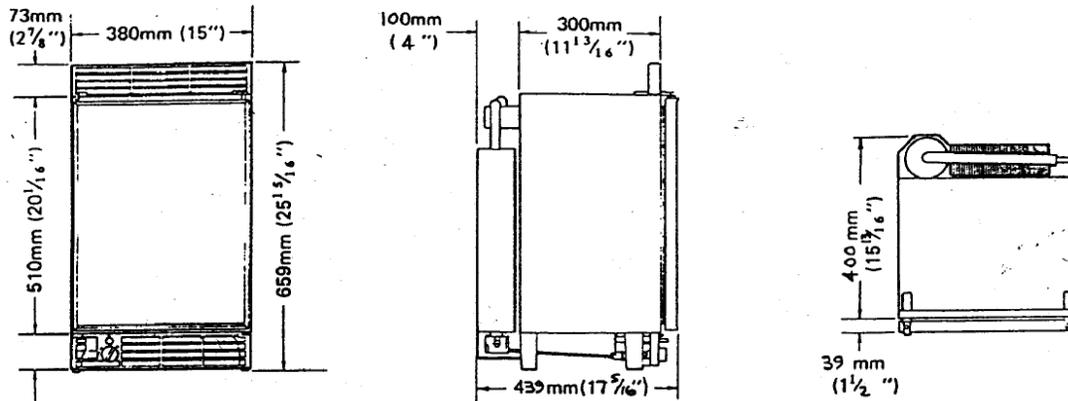

FIG. 3
The exterior dimensions of the refrigerator are given in fig. 3. For dimensions of the recess to house the refrigerator when building-in, refer to item 7.